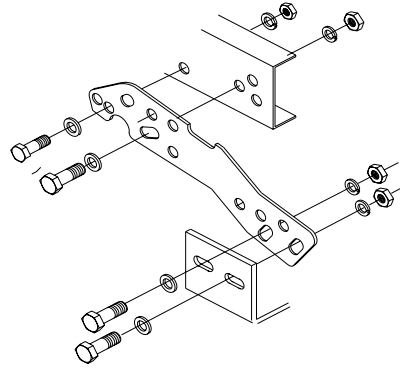

FIGURE 2 (driver side view)
STEP 2: Install bumper onto mounting brackets with brackets INSIDE of bumper hitch. Refer to figure 2.